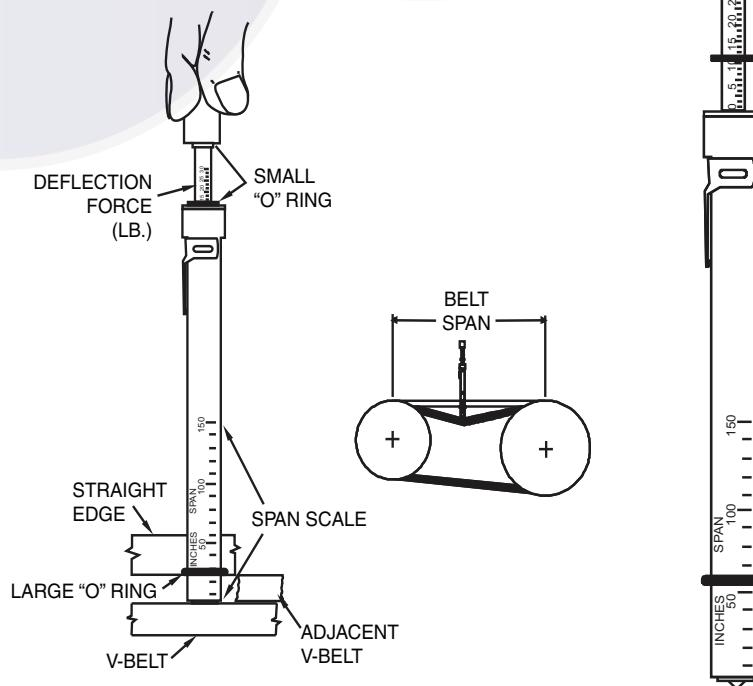

Fig. 11 — Belt Tensioning
- Measure the belt span (see Fig. 11).